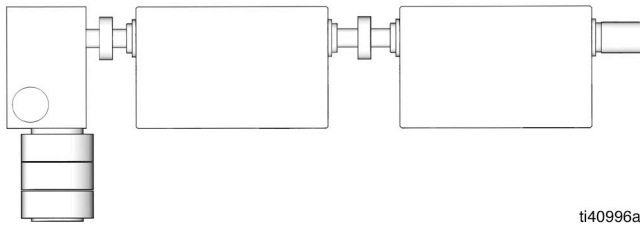

FIG. 5
- A tandem drive arrangement powered through drive shaft couplers may also be used. Note that a maximum of three high pressure lubricators can be used with this method (FIG. 5).